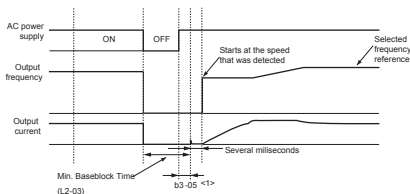

Figure 5.12 Speed Search after Baseblock
**Note:** If the Run command is quickly switched off and then back on again when the drive is set to "Coast to stop" as the stopping method, Speed Search will operate as shown in Figure 5.12.